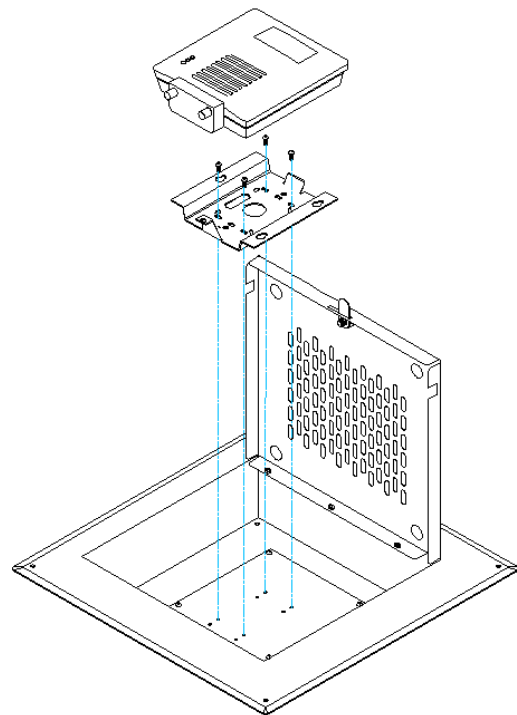

Figure 2 - Install access point.
Step 2 – A mounting plate is provided that supports most commonly used access points. Install the access point in the enclosure by attaching per the manufacturers instructions (Reference *Figure 2*).